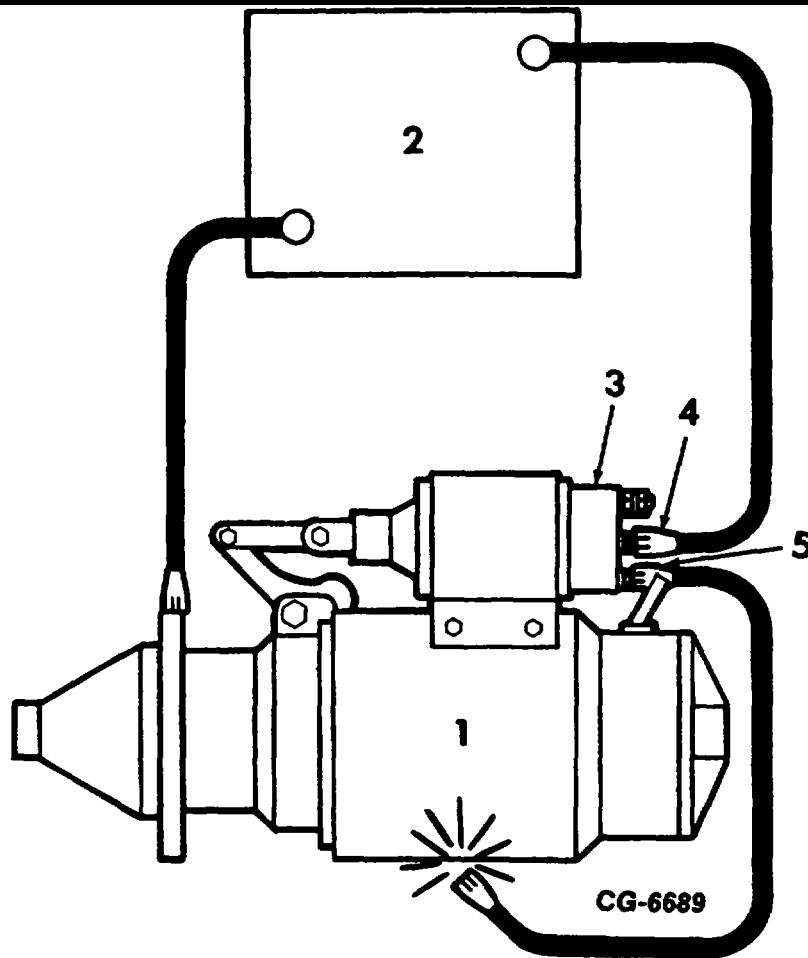

Fig. 15 Pinion Drive Clearance Check Hookup
2. Connect a battery, of the same voltage as the solenoid, one lead to solenoid switch terminal and the other to the starter or solenoid frame, Fig. 15.
4. Solenoid Terminal (S)